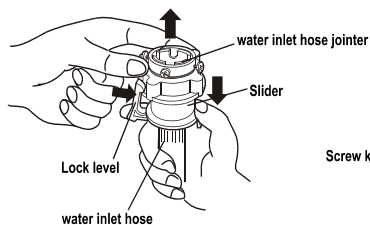
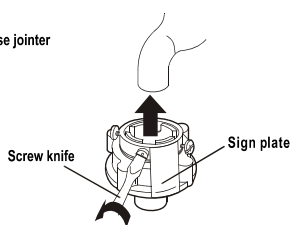
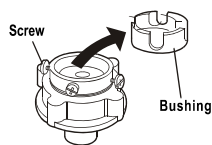

Figure 1
Figure 2
Figure 3
2. Put down the drain hose. Take off the drain hose frame as indicated in Figure 1. Take the drain hose into the cabinet, then nip the drain fixing clamp to make it deviated from the clip, the other hand is used to put down the drain bushing, as indicated in Figure 2,3.
1. Press the lower end of the lock lever and push down the slider. Take off the water inlet hose jointer from the water inlet hose component. See to Figure 1.
2. Loosen the screw till the water faucet can be accessed. Put the jointer of the water inlet hose on the faucet. See to Figure 2. (If the faucet is too large and the jointer can not be set on the water faucet, please loosen the four screws and take out the bushing in the jointer. The front end of the faucet must be smooth, otherwise it may leak water. See to Figure 3.)